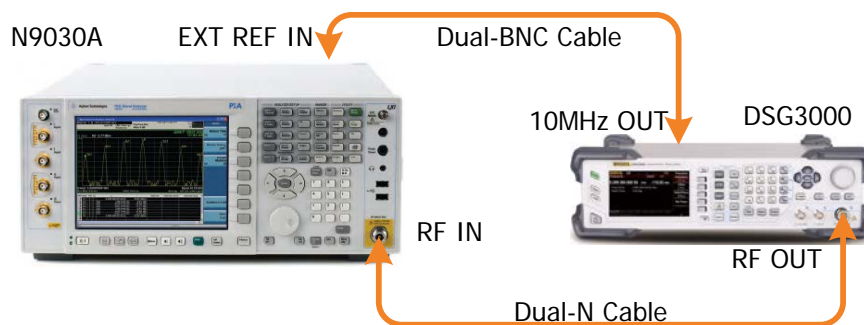

Figure 2-7 PM Internal Modulation Test Connection Diagram
1. Synchronize the DSG3000 and signal analyzer. Connect the RF output terminal of the DSG3000 with the RF input terminal of the signal analyzer as shown in Figure 2-7.